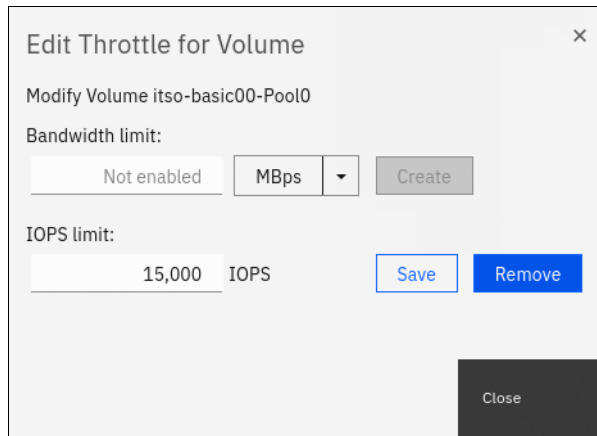

Figure 6-38 Removing a volume throttle
- To remove the throttle completely, click **Remove** for the throttle that you want to remove, as shown in Figure 6-38.